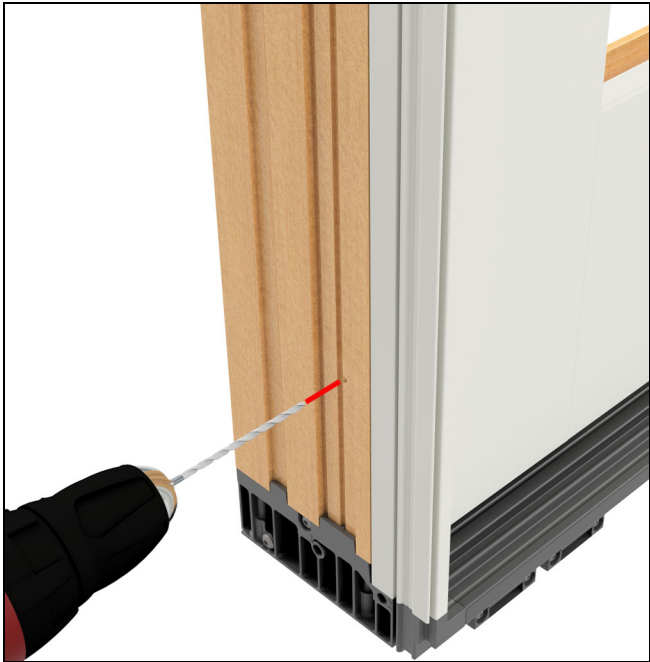

Figure 53
8. Hold the panel in place and use the holes in the side jamb to pre-drill into the panel with a 1/8" drill bit. See Figure 53.